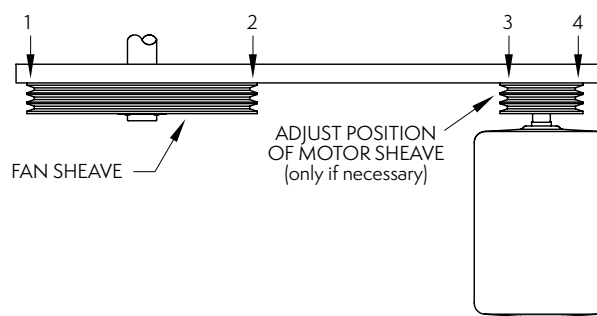

Figure 21 — Sheave Alignment Check
9. As a final check, lay a straight edge from sheave to sheave as shown below in **Figure 21**. There should be four-point contact. Adjust the position of the motor sheave as necessary until four-point contact is achieved.